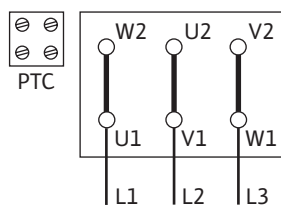

Fig. 10: Y-Δ start
- The mains connection is dependent on the motor power P2, mains voltage and activation type. Refer to the following table and Fig. 10, 11 and 12 for the required connection of the connection bridges in the terminal box.